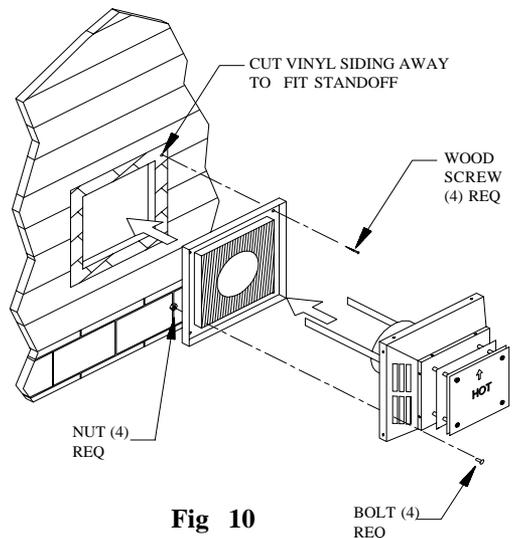

Fig 10
(1) The four wood screws provided should be replaced with appropriate fasteners for use on stucco, brick, concrete, or other types of sidings.
(2) For buildings with vinyl sidings, a Vinyl Siding Standoff should be installed between the vent cap and the exterior wall. (Figure 10). Attach the Vinyl Siding Standoff to the Horizontal Vent Termination. The Vinyl Siding Standoff prevents excessive heat from possibly melting the vinyl siding material. Note that the Horizontal Vent Termination bolts onto the flat portion of the Vinyl Siding Standoff, (shaded area shown in Figure 10), so that an air space will exist between the wall and the Vent Termination. Follow the label on the Standoff for which side of the Standoff faces towards the wall.